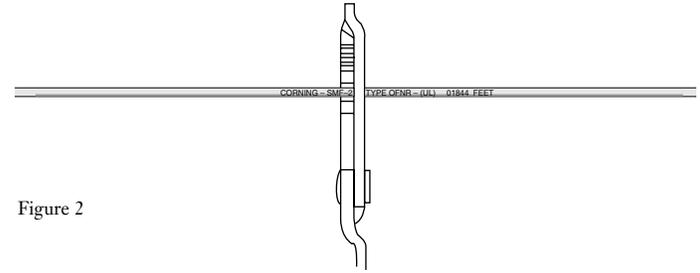

Figure 2
**3.2** Close the tool over the buffer. For consistent results, hold the tool perpendicular to the buffer (Figure 2).